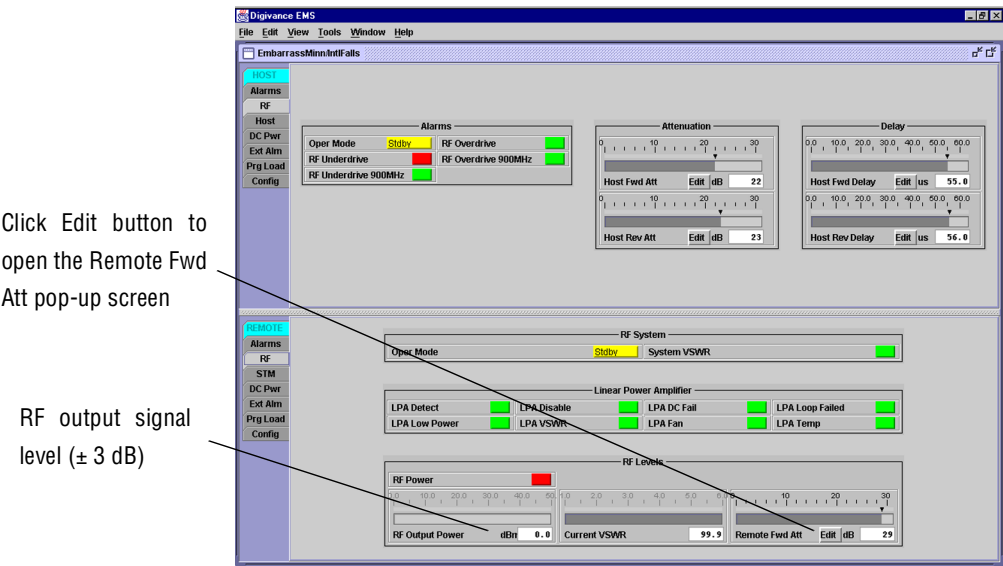
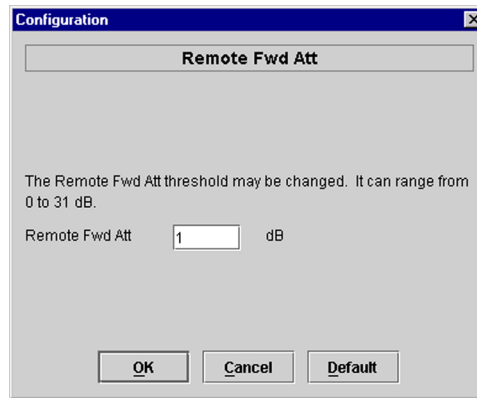

Figure 3-10. REMOTE LPA Display
Figure 3-11. Remote Fwd Att Pop-Up Screen
- 1. Click on the REMOTE **RF** tab. The REMOTE **RF** display will open within the EMS main window as shown in Figure 3-10.
- 4. Click on the **Remote Fwd Att** field **Edit** button (see Figure 3-10). The **Remote Fwd Att** pop-up screen will open as shown in Figure 3-11.
6. Verify that the appropriate RF output signal level appears in the **RF Output Power** field (see Figure 3-10). This is primarily a reference value and should not take the place of external test equipment when determining the power level of the composite RF output signal. Depending on the modulation type and number of channels, the EMS software may report a power level that is higher or lower (± 3 dB) than the actual RF output signal.